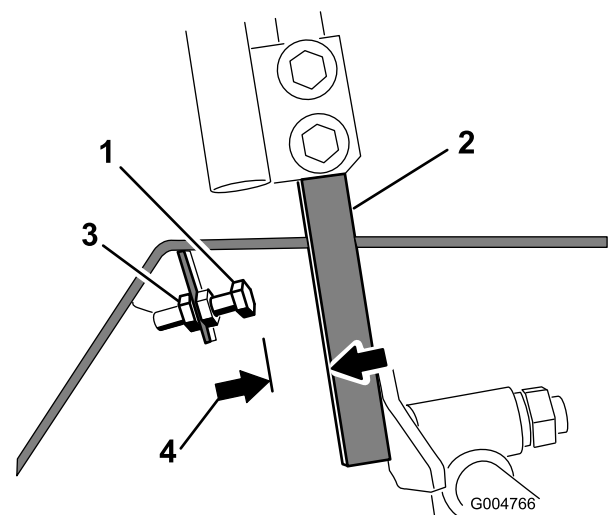

Figure 86
4. Loosen the jam nut on the stop bolt for one of the control levers (Figure 86).